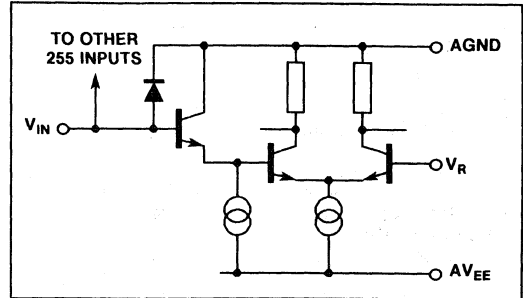

Fig.3 Analog input
**Analog Input (Figs. 3, 4 and 5)**
The maximum amplitude and offset of the input is defined by the reference voltages ( $V_{RB}$  to  $V_{RT}$ ). The optimum input is 2V p-p with a DC offset of -1V. The analog input circuit of the SP97508 consists of 256 buffered comparator inputs, as shown in Fig. 3.